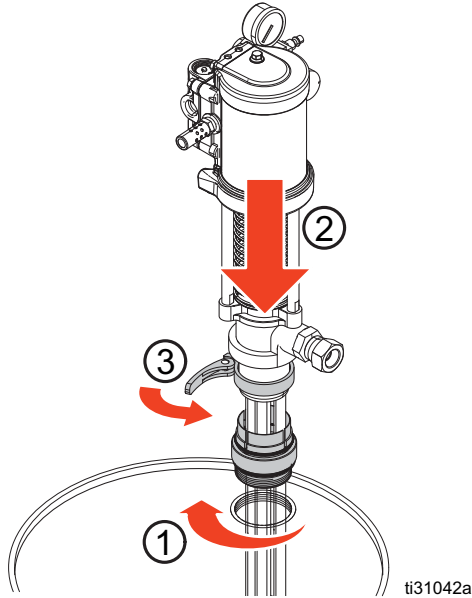

FIG. 9
6. Ensure the gasket is in place and screw the bung adapter securely into the bung hole of the drum (1). Insert the pump through the adapter (2) and lock it in place (3). See FIG. 9.